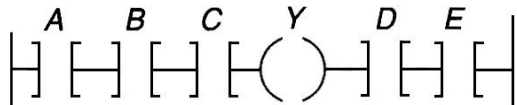

Figure 5-31 Program for assignment 13.
13a) What problem is posed in trying to program the ladder logic program of Figure 5-31 into a PLC?
b) On a separate sheet, redraw the ladder logic program of Figure 5-31 to maintain the original control logic and eliminate the problem. Program the circuit into the controller, and verify its operation.